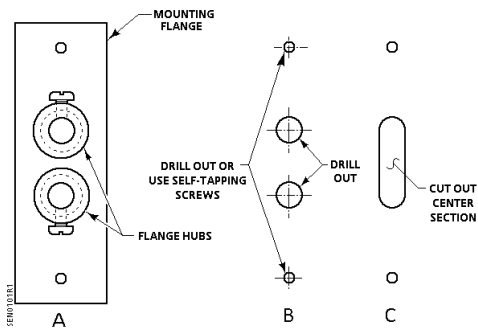

Figure 2. Preparing the Duct for the Mounting Flange.
1. Using the mounting flange as a template, drill two 1/2-inch (13 mm) diameter holes on the side of the duct. Cut out the duct sheet metal between the two holes (see Figure 2).